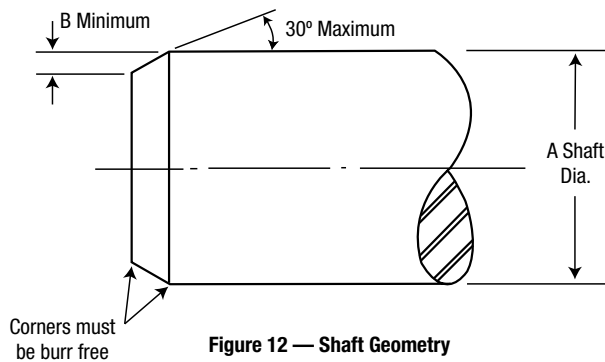

Figure 12 — Shaft Geometry
- Both the shaft and bore should include an edge relief (preferably an edge chamfer) as shown in Figure 12 & 13. See table 11 and 12 for specific values.